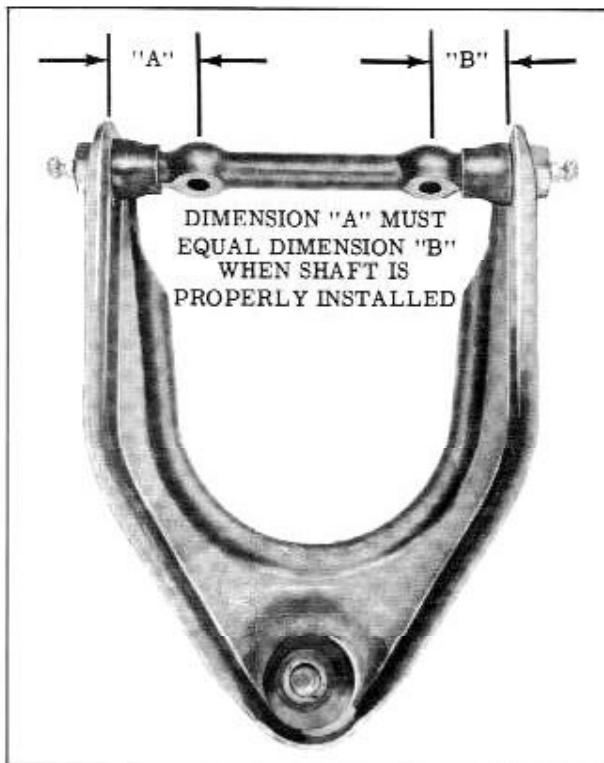

Fig. 5-10 Upper Control Arm Shaft
If arm and shaft are being replaced now as an assembly, center shaft in arm as shown in Fig. 5-10 before attaching to cross bar.
3. Center shaft in arm. (Fig. 5-10)